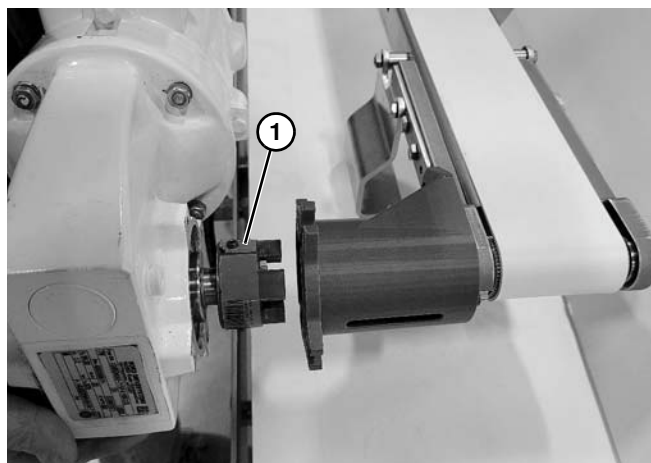

Figure 16
5. Install motor with 3 jaw coupling (Figure 16, item 1) onto shaft, making sure the couplings are engaged.